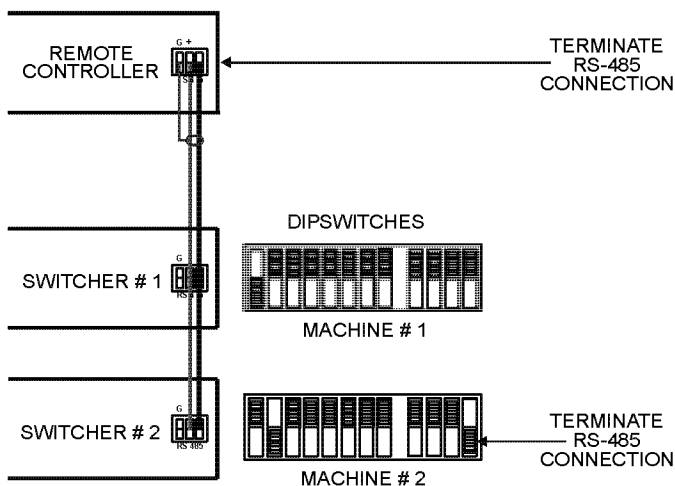
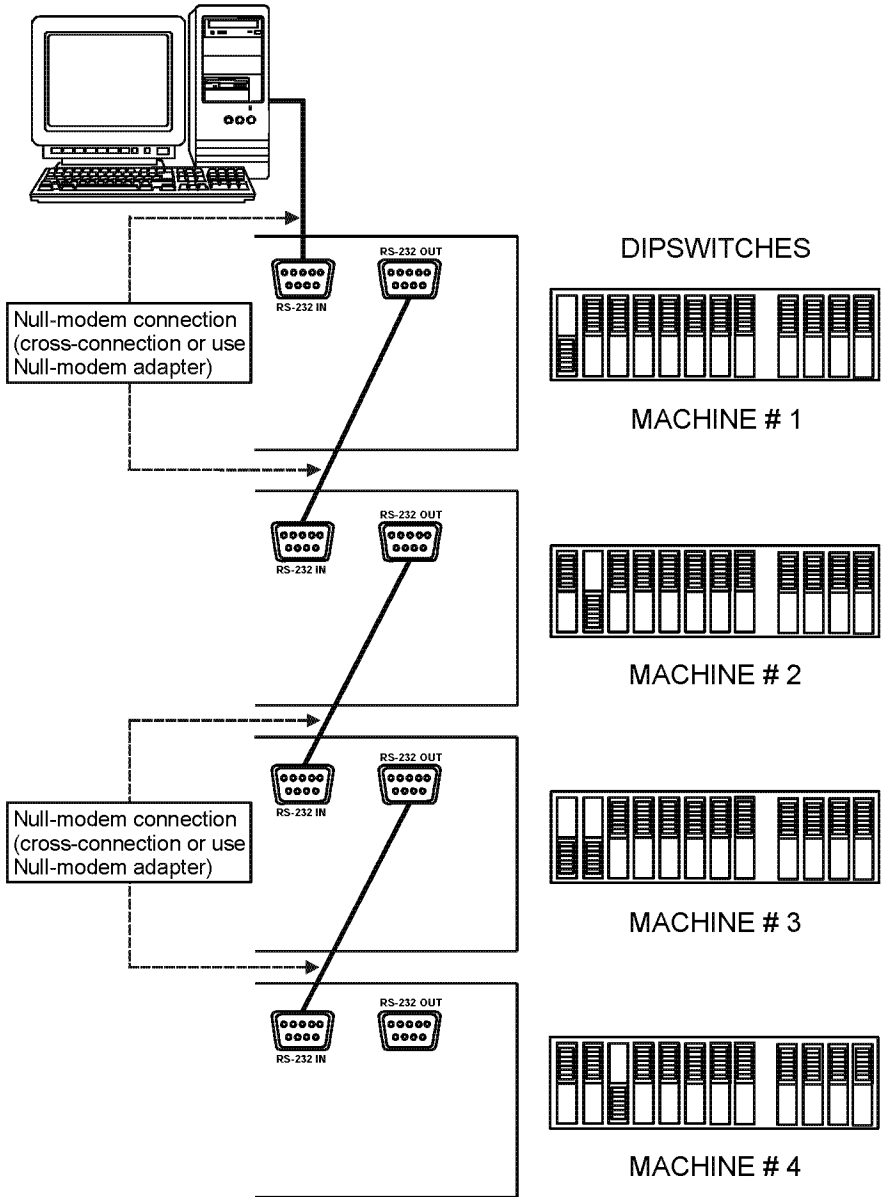

Figure 7: Controlling via RS-485
Figure 9: Dipswitch Settings on 4 VP-81xl, VP-161xl, and/or VP-321xl Units
To connect an RS-485 remote controller to two **VP-81xl/VP-161xl/VP-321xl** units (see Figure 7):
Figure 9 illustrates how to set the dipswitches on four single **VP-81xl**, **VP-161xl**, and/or **VP-321xl** units, which are controlled by one RS-232 port:
7. Control via RS-485 (see Figure 7) or via RS-232 (see Figure 9).